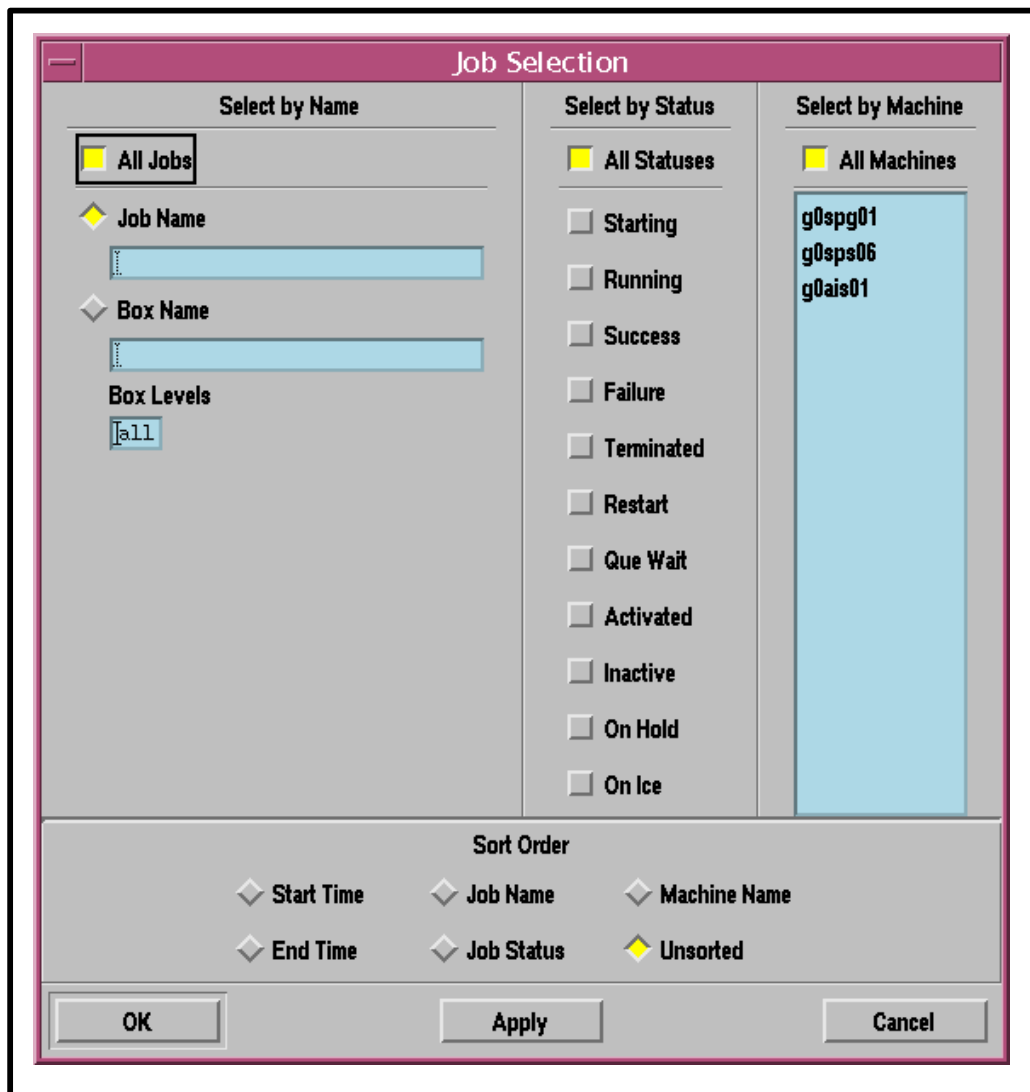

Figure 68. Job Selection GUI
- The **Job Selection** GUI (Figure 68) is displayed.